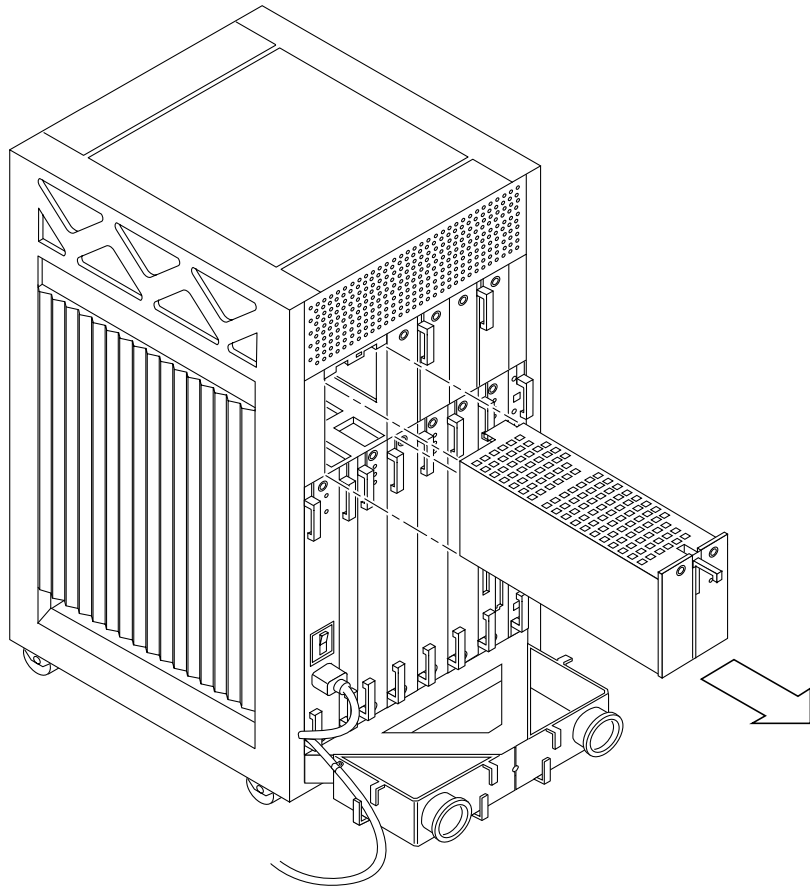

FIGURE E-3 Removing the Auxiliary Fan Tray
3. Pull the end of the extraction lever outward to release the auxiliary fan tray assembly from the centerplane (FIGURE E-3).
- Orient the auxiliary fan tray with the extraction lever on the outside edge of the Enterprise 3500 system (FIGURE E-3).